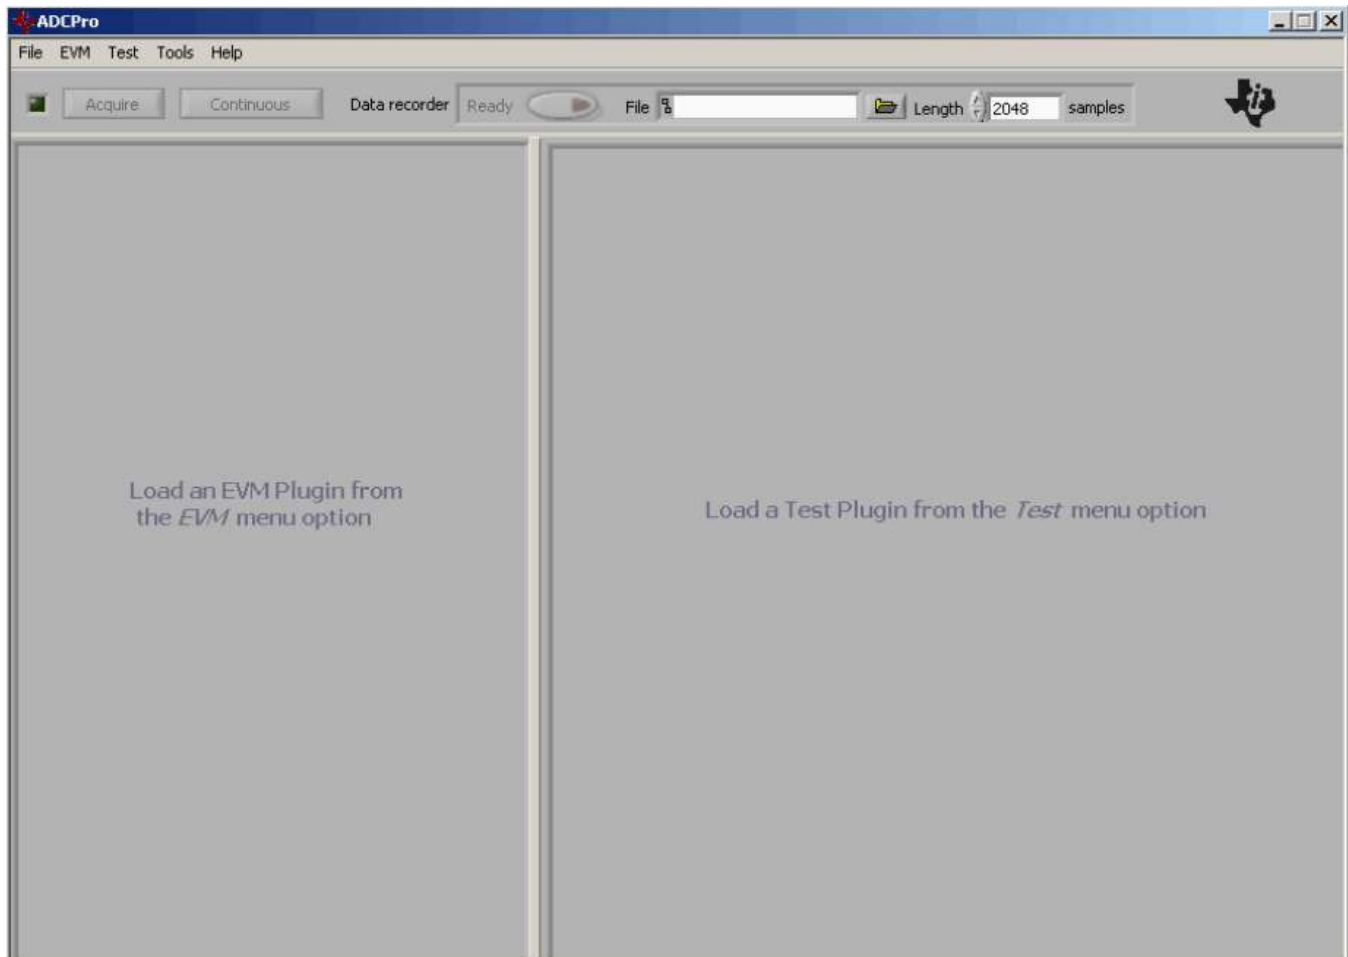

Figure 7. ADCPro Software Start-up Display Window
- Step 1. Start the software by selecting *ADCPro* from the Windows Start menu. The screen in Figure 7 appears.